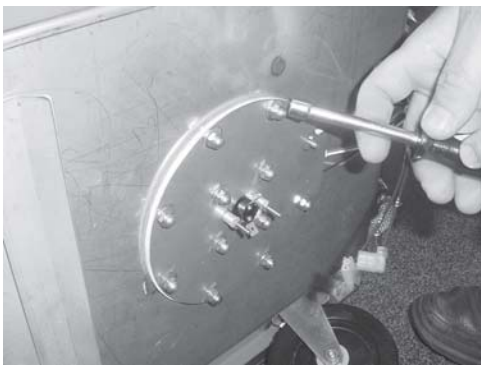

Figure 3-47
5. Remove the nuts securing the water heater plate and high limit, and pull high limit, plate, insulation and water pan heater from the unit. Figure 3-47.